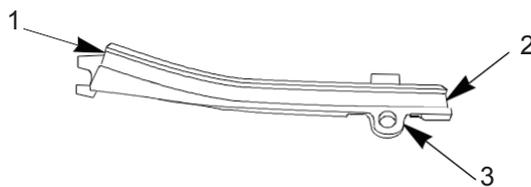

Figure 8. Feed Lever, Spring, Cover Assembly.
12. Visually inspect feed lever (Figure 8, Item 1) for burrs and cracks and replace if damaged. If enlargement or elongation exists in pivot hole (Figure 8, Item 3), replace feed lever (Figure 8, Item 1). Visually inspect channel (Figure 8, Item 2) for distortion, burrs, or ripples and if damaged, replace feed lever (Figure 8, Item 1).